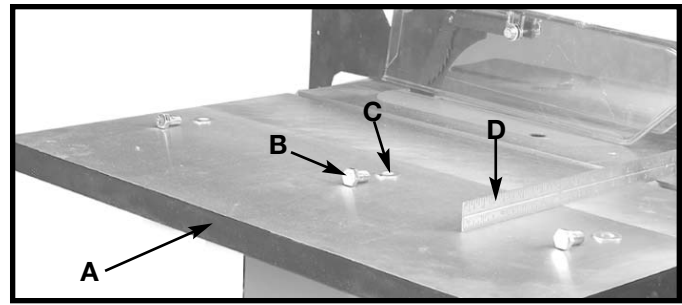
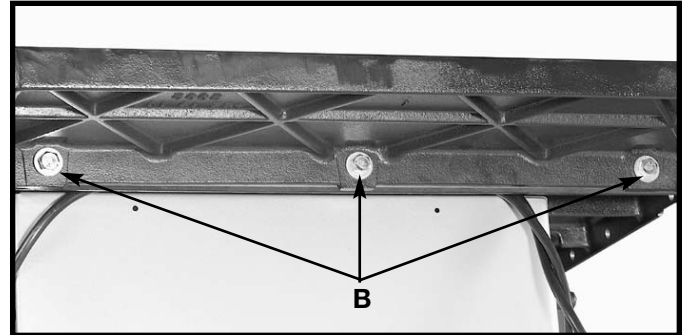

Fig. 35
Fig. 36
1. Assemble extension wing (A) Fig. 35, to the saw table using three 7/16-20 x 1-1/4" bolts (B) and lockwashers (C) Fig. 35.
2. With a straight edge (D) Fig. 35, make certain the extension wing (A) is level with the saw table **before tightening three bolts (B) Fig. 36.**